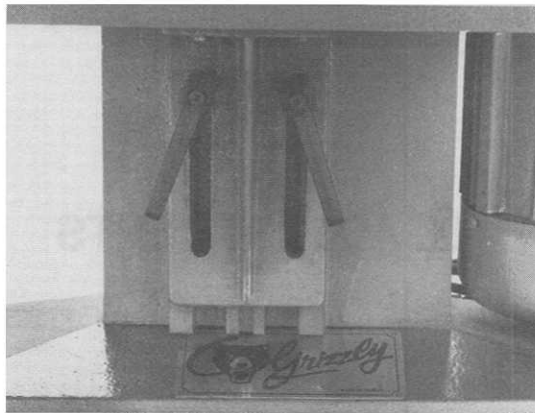

Figure 1
3. Secure the Table/Table Support assembly to the Main Table Column with the Table Support Lever. With a 4mm Allen wrench, just barely tighten the cap screw in the lever. Then, turn the lever until it is firmly locking the table assembly in place. It may take a few attempts to position the lever so that it is easily accessible when in the locked position. See Figure 1.